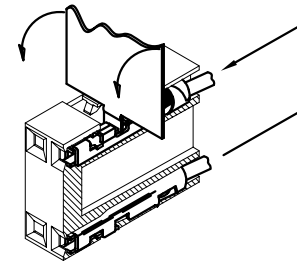

FIGURE 2
- ④. TO REMOVE TERMINAL; PUSH TERMINAL FORWARD, LIFT LATCH WITH HAND TOOL AS SHOWN IN FIGURES 2 & 3. DAMAGE TO LATCH MAY OCCUR IF LIFTED MORE THAN A 25° ANGLE TO THE TOP OF HOUSING.
- ⑤. SEE MINI PV™ TERMINAL TA-75 FOR CORRECT CRIMP HEIGHT FOR EACH DIFFERENT WIRE SIZE. IF THIS SPECIFICATION IS NOT MET LATCHING WILL NOT BE SATISFACTORY. PRODUCT SPECIFICATION: BUS-12-067.
- ⑥. THIS HOUSING IS INTENDED FOR USE WITH MINI PV™ TERMINAL WITH 22-36 GAUGE WIRE.
- ⑦. MOLDING IS PRIMARY MANUFACTURING METHOD. SOLVENT BONDING IS OPTIONAL.
- ⑧. PRODUCT MEETS EUROPEAN UNION DIRECTIVES AND OTHER COUNTRY REGULATIONS AS DESCRIBED IN GS-22-008.
- ⑨. THE PRODUCT IS NOT INTENDED TO BE EXPOSED TO MANUFACTURING SOLDER PROCESS.